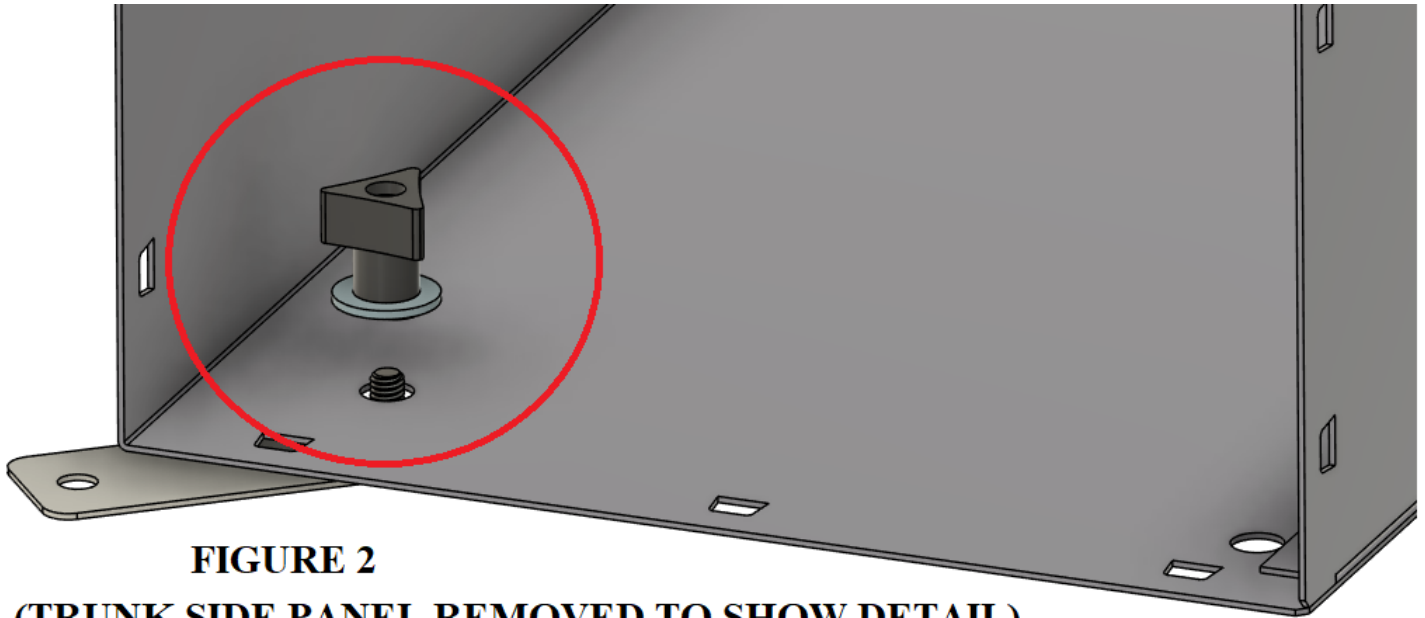

FIGURE 2
- Take the #1 Mounting Bracket with the #3 Carriage Bolt and run the bolt through one of the mounting holes in the bottom corner of the trunk. Use one #4 Flat Washer and one #2 Wing Knob Nut to secure. **Do not fully tighten.** (See Figure 2)